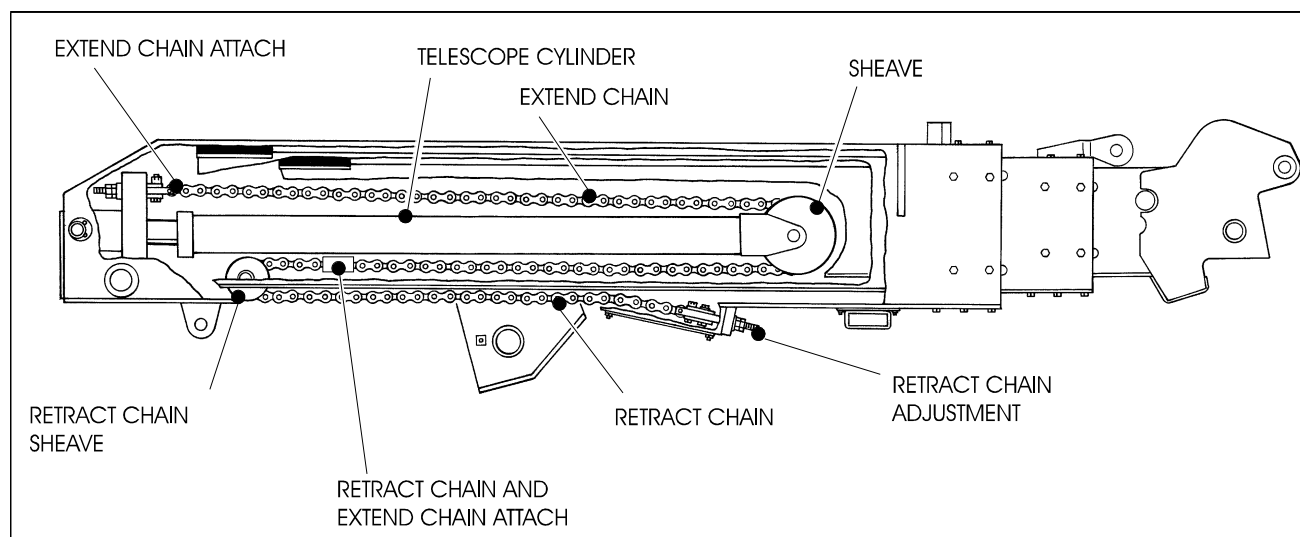

Figure 2-2. Typical Boom Assembly
2.6 BOOM CHAINS (SEE FIGURE 2-2.)
WHEN WORKING ON THE LIFT CYLINDER, RAISE THE BOOM TO HORIZONTAL AND PLACE A BOOM PROP APPROXIMATELY 2.5 CM BELOW THE BOOM. DO NOT WORK ON THE CYLINDER WITHOUT A SUITABLE PROP IN PLACE. REFER TO FIGURE 2-2.